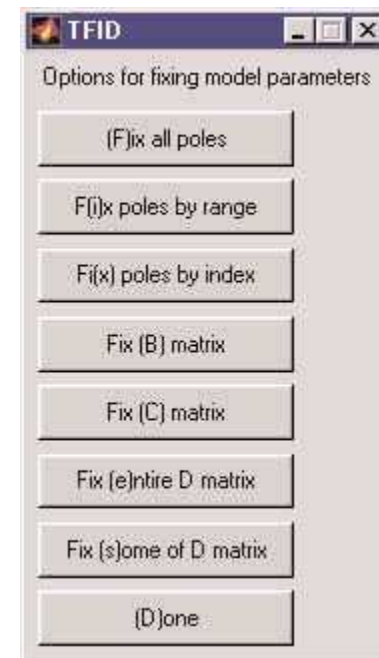

Figure 8. Log Least Squares tune options menu.
6.6.1 Tune options menu (Figure 8): selects the model parameters to be tuned.